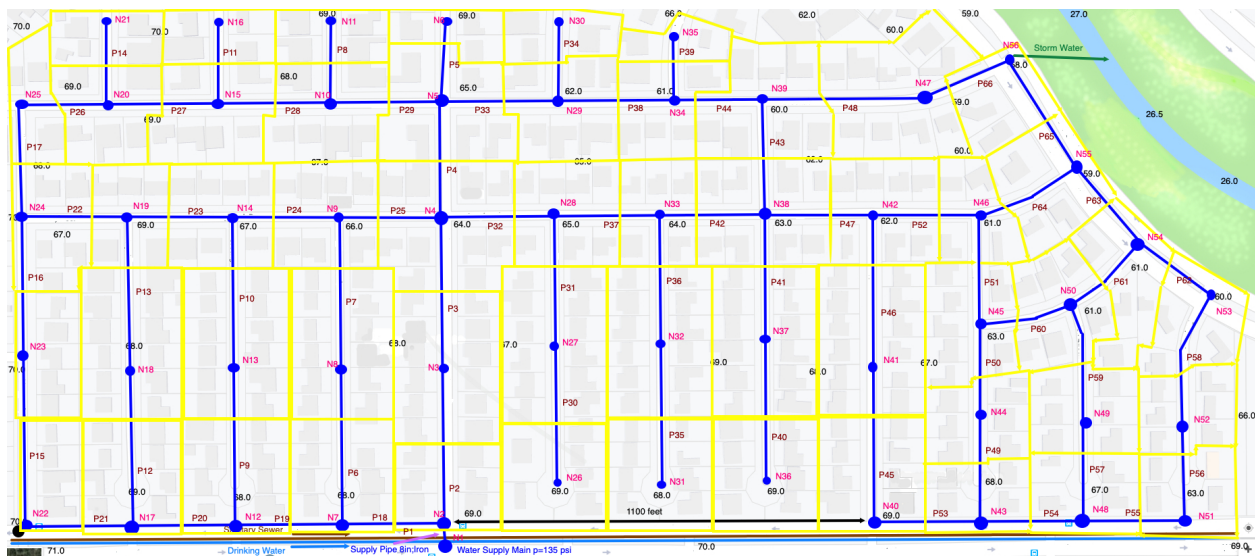

Figure 1: Hydraulic Model Network for Somewhere USA
1. Figure 1 is a layout of a hydraulic network model for the Somewhere USA subdivision. The blue line segments are pipes and are labeled (P1, P2, ...). The blue circles are nodes and are labeled (N1, N2, ...). The yellow polygons represent the lots assigned to each node; for example, node N2 supplies the six (6) lots located near the node.